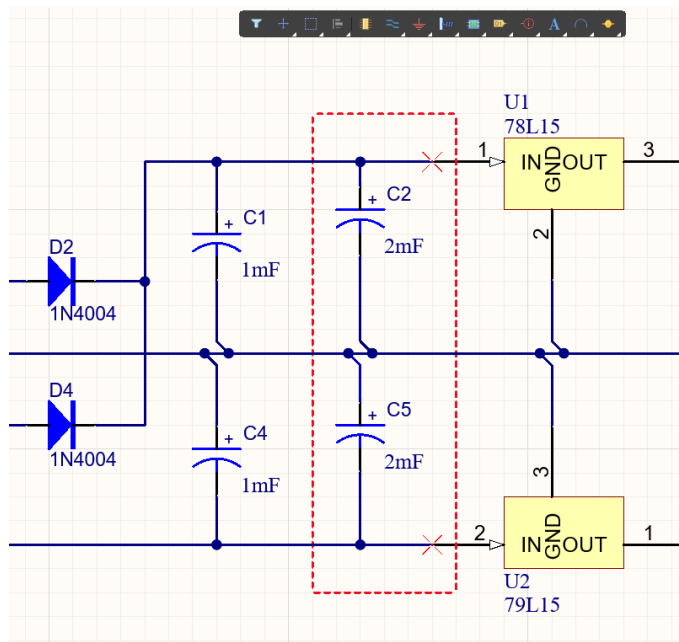

Figure 12. Delete components C2 and C5 on the schematic
47. In the *Editor* tab of the schematic, delete components C2 and C5 from the red dashed area, Figure 12. You will focus on Alternate Components next and no longer need these.